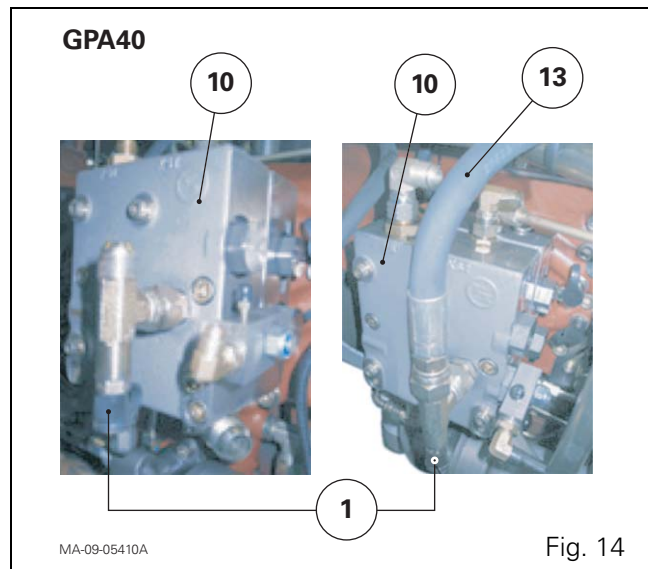

Fig. 14
- **GPA40 rear axle (old generation) (Fig. 14)**